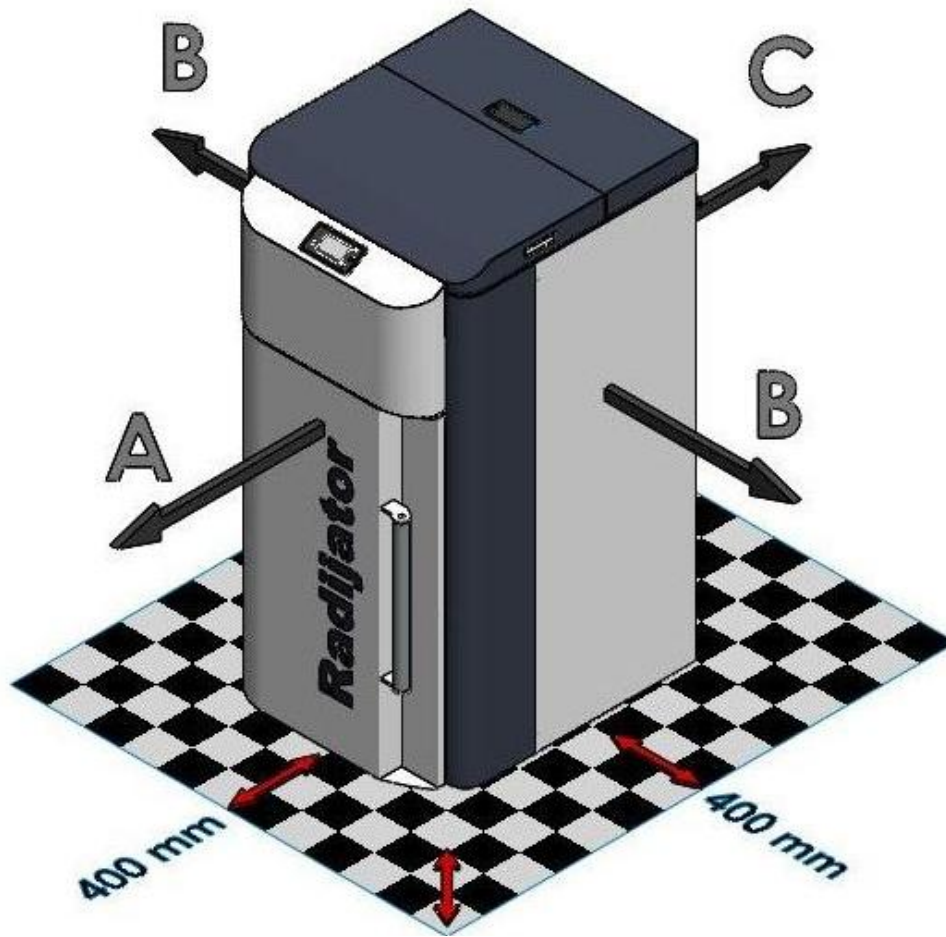

Figure 8.2 Display of Distance of Pellet Boiler from fixed objects
- In case of setting the boiler on the combustible surfaces (floors, laminates, rugs, carpets, etc.). It is necessary to insulate the unit from such substrates with a plate of uncombustible materials (steel, ceramics, insulation materials, ceramic fiber, etc.). Such plates should be sized as to be larger from the base of the boiler (see **Figure 8.2**).
- **Distance of the boiler from the solid immovable objects (walls, columns, etc.) (Figure 8.2) laterally must be at least 40 cm (Figure 8.2 measures B), at the back of 40 cm (Figure 8.2 measures C) and at the front of 100 cm (Fig. 8.2 A measures). This gap distances are necessary because of approaching to hole for cleaning as well as for access during service interventions.**